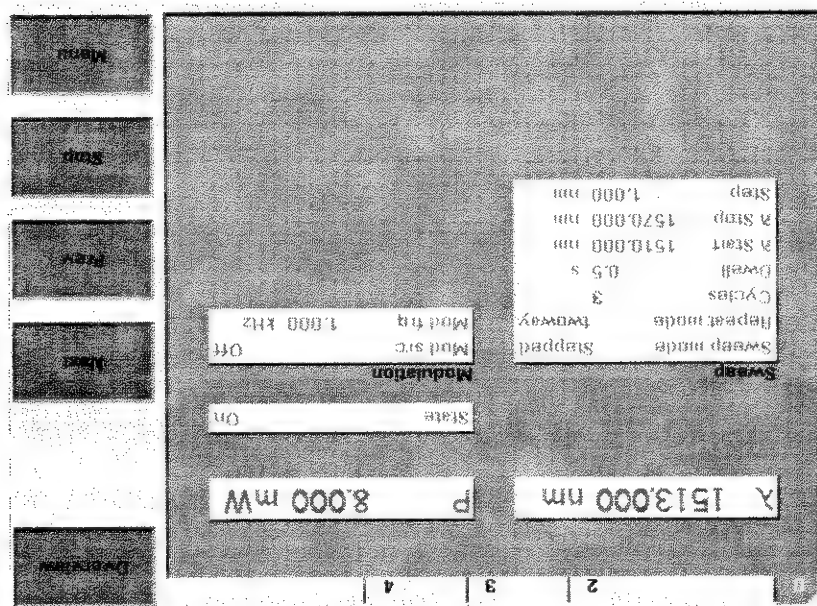

Figure 72 Performing a Manual Sweep
- 6 Press [Run Swp] to start the sweep. The screen in Figure 72 then appears.